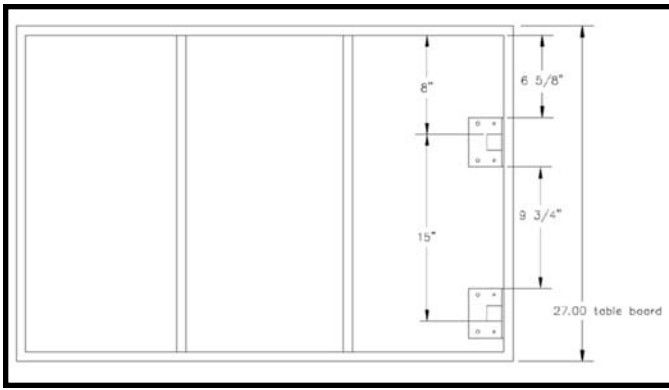

Fig. 92
1. Position the two legs, at the inside of one end of the extension table, mark the position of the eight holes to be drilled into the bottom of the table, Fig. 92. Remove the two legs and using a 1/16" drill bit, drill the eight holes 1/2" deep. Replace the two legs and fasten to the bottom of the table using the eight 3/4" long wood screws supplied.